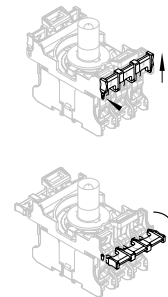

Fig. 11
2. Contact carrier disassembled and opening the contact lugs (see Fig. 11): lift both contact lugs to release them from the catch mechanism and then fold them 90° up. After that, the contact or light elements can be disassembled.